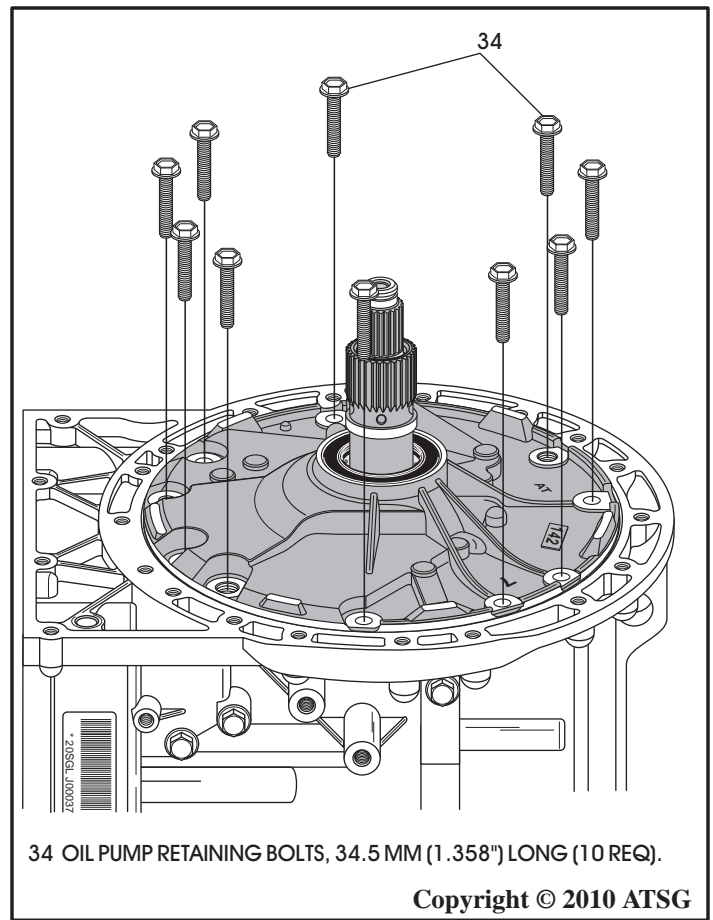

Figure 227
51. Once the pump is fully seated, install the ten oil pump retaining bolts, as shown in Figure 227.